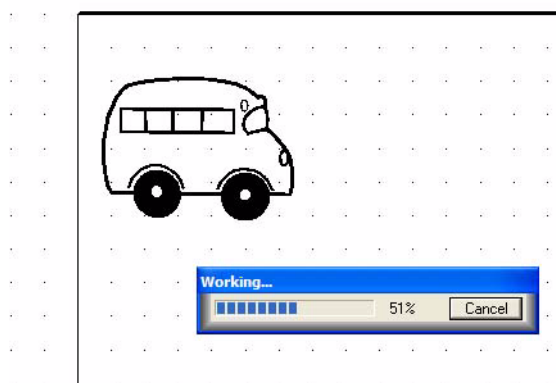

Figure 110
- 4 Using the Vectorizing wand, click on the image. See figure 110.
- If the **Working... box** appears, you have successfully vectorized the image, and you can go on to “Edit the image” on page 71. The **Working... box** provides a running tally of the percentage of vectorization that is complete. See figure 110.